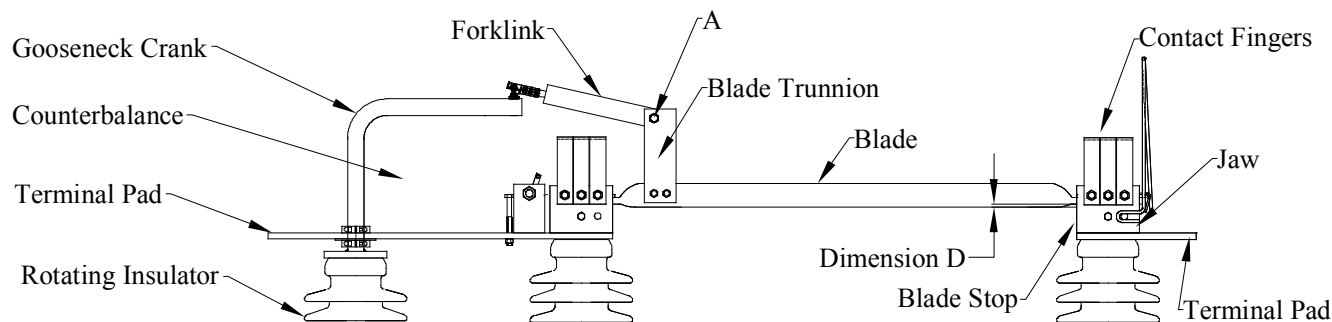

FIG. 3 TYPICAL SET OF CURRENT CARRYING PARTS
CAUTION: When uncrating switches having blade counterbalances (Fig. 3), open the switch blade to relieve the pressure of the counterbalance before removing the live parts from the base.
Blade Height in Jaw—In Fig. 3, dimension (D) can vary from 0" to 1/2" with the switch in the closed position. It is not usually possible to get this dimension to be equal on all three poles of a three-pole switch. If it's necessary to adjust this dimension, remove connecting pin (A) and turn fork link 1/2 turn then reconnect and try switch. Turning the fork link in will move the blade away from the blade stop. Conversely, turning the fork link out will move the blade closer to the blade stop.